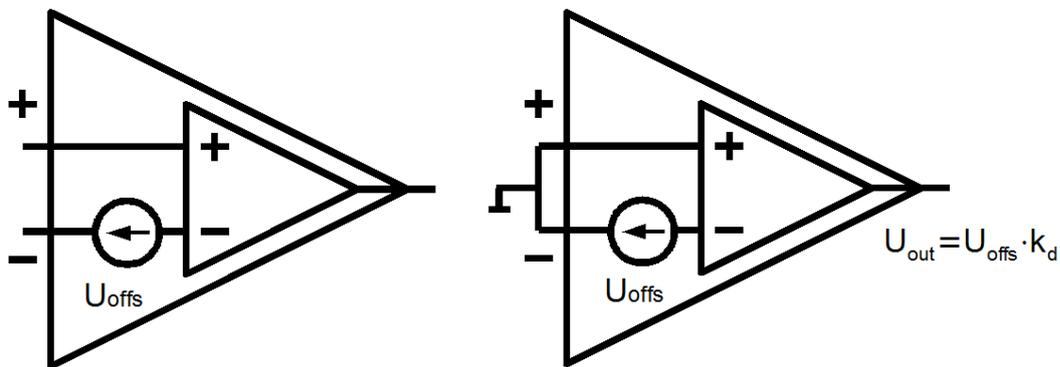

Figure 6.26 Input offset voltage
- input offset voltage, as shown on Figure 6.26